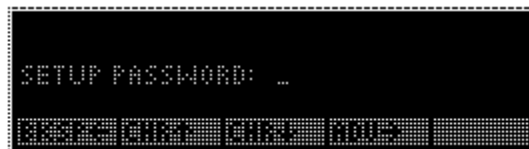

Figure 2
1. Press and hold the **ESCAPE** key until the WI-130 beeps. . . The display asks for a password and looks like Figure 2.